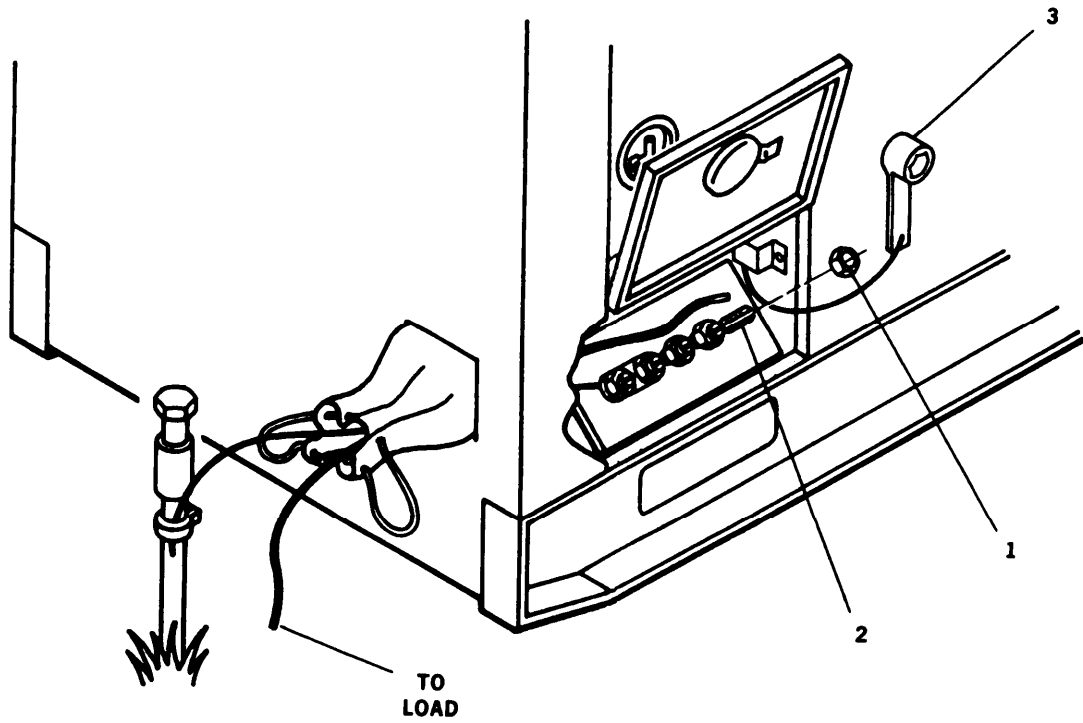

FIGURE 2-4. Installation of Load Cables
- d. Using terminal nut wrench (3, FIGURE 2-4) loosen terminal nuts (1) on terminals (2) selected in Step b.
- g. Secure wrench (3) in bracket inside load terminal board door, and close door.